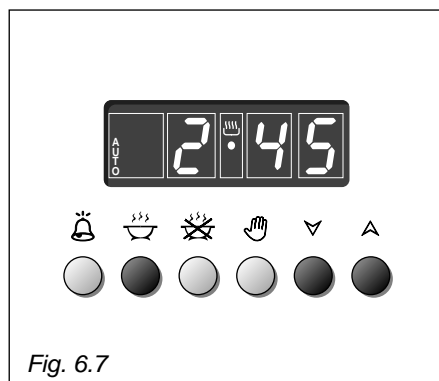

Fig. 6.7
1. Set the length of time you need to cook the food by pushing the  button and the  button to advance, or  to go backwards (Fig. 6.7). This sets the desired "stop" time.